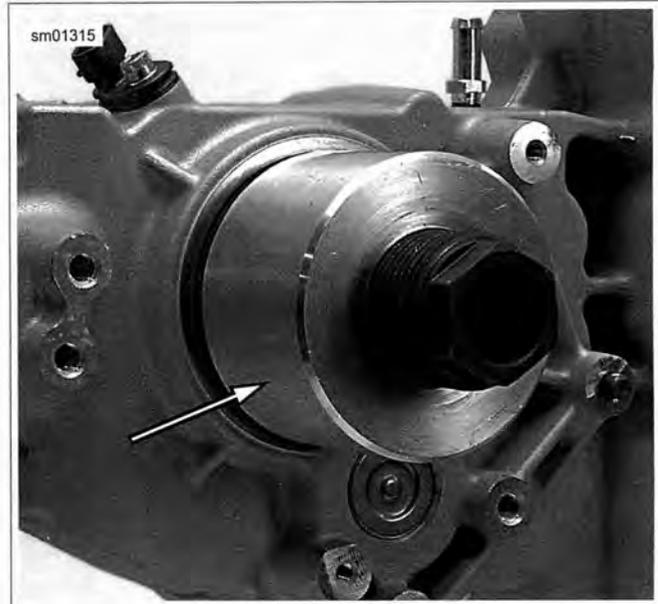

Figure 5-83. Place Installer over Adapter (typical, XL model shown)
7. See Figure 5-83. Slide INSTALLER (Part No. HD-47856-1) over adapter until cupped end of installer is flat against seal.